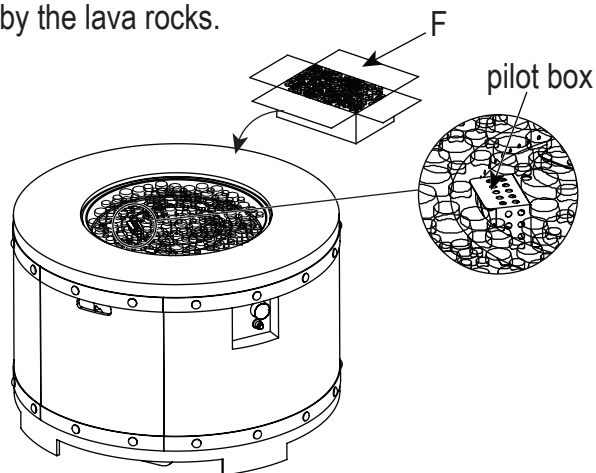

Figure 2
- Put the lava rocks (F) around the burner, then remove the label from the pilot box (See Figure 2). A gas fire pit requires 13.2 lbs lava rocks.